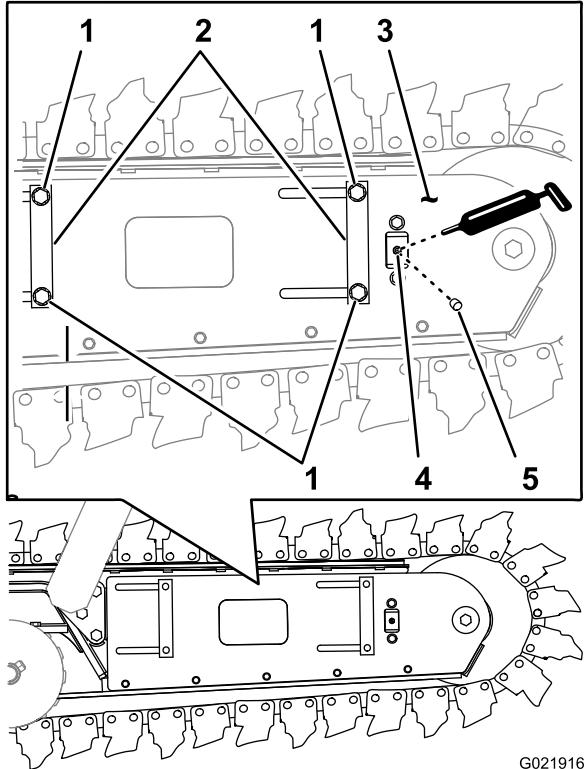

Figure 34
1. Locate the cap for the grease fitting at the side plate on the left side of the boom (Figure 34).
2. Clean the area around the dust cap with a cleaning solvent (Figure 34).
3. Use a needle-nose pliers to rotate the dust cap counterclockwise and remove the cap from the grease fitting (Figure 34).
- 4 bolts for the short boom (Figure 34)